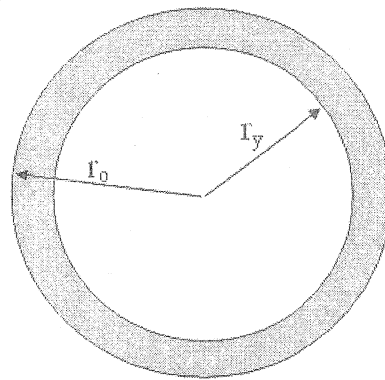

Figure Q3
- Q3. a) Figure Q3 shows a cross-section of a twisted shaft.